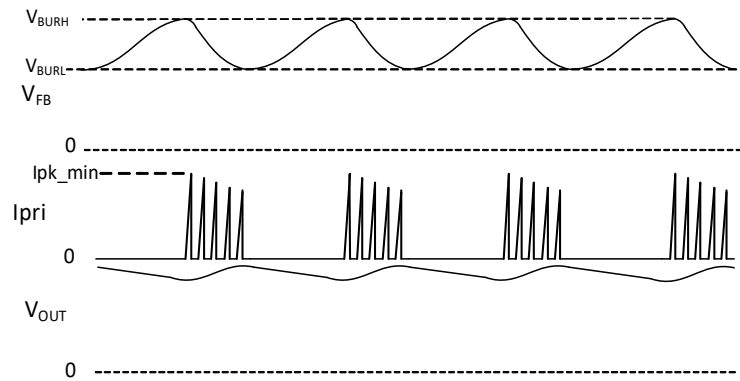

Figure 23. Burst Mode Operation at Light Load
- Burst Mode – At light load, the regulator transitions into the burst mode operation to save IC power consumption. While the load decreases, the FB voltage reduces. When the load drops below  $V_{BURL}$ , the part enters burst mode operation, and the IC stops switching. When FB voltage rises back to  $V_{BURH}$ , the IC resumes switching until FB voltage falls back to  $V_{BURL}$ . In Burst mode, the peak current is typically not more than  $V_{CS\_MIN}/R_S$  excluding the overshoot, and the burst frequency is below 3kHz, which effectively minimizes the audible noises. See the Burst mode operation in Figure 23.